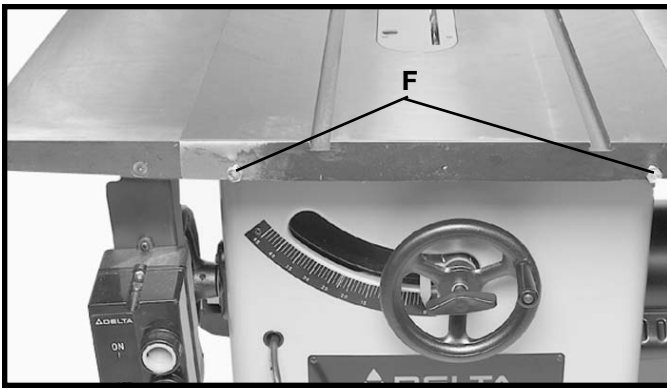

Fig. 49
3. Insert two 3/8-24x1" hex head bolts into the two holes (F) Fig. 49, in the front of saw table and place flat washer and nut onto bolt from underneath the saw table. Screw bolts into nuts two full turns, leaving bolt head extended approximately 1/2" from the table. **Note: Make sure to use only the two holes shown at (F).**